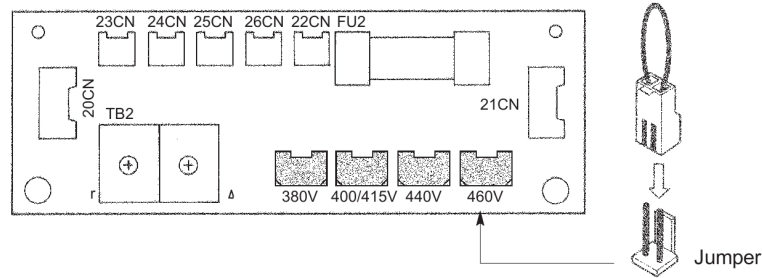

Figure 13: Setting the Power Supply Voltage (For 460 V Class Power Regenerative Unit between 65 A and 248 A)
3. Insert the jumper at the position for the voltage supplied to the power regenerative unit (see Figure 13).